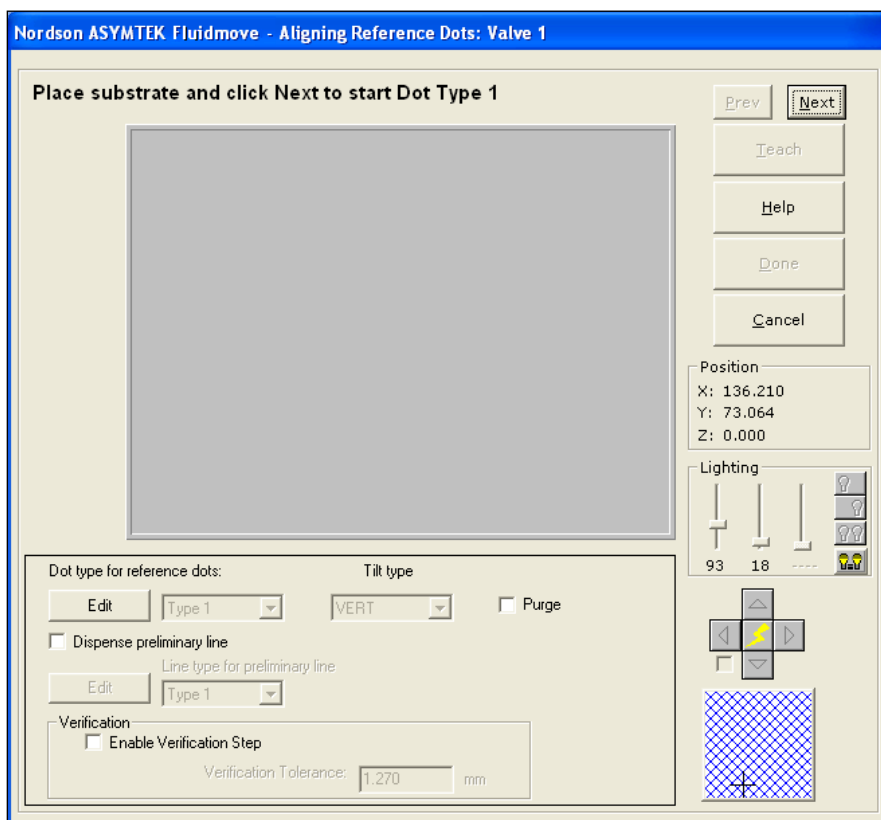

Figure 4-13 Alignment Dot 1 Dispensing Valve 1
*To calculate the needle XY offset (Figure 4-13):*